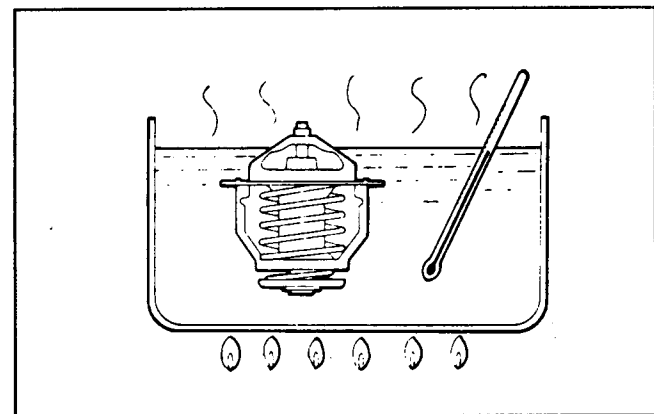

Figure 36
2. Put the thermostat in a container of water with a thermometer and heat the water (Fig. 36).